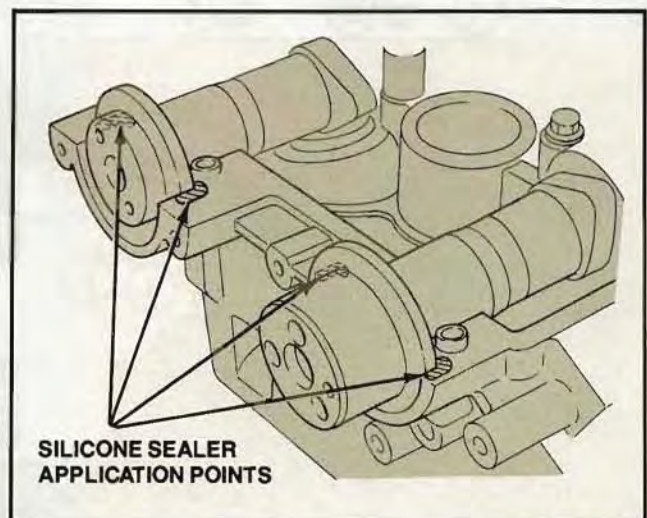

Figure 116. Silicone Sealer Application Points
- Apply Ford Silicone Gasket and Sealant E3AZ-19562-A or equivalent to the cylinder head and the oil seal shoulder as shown (Fig. 116).